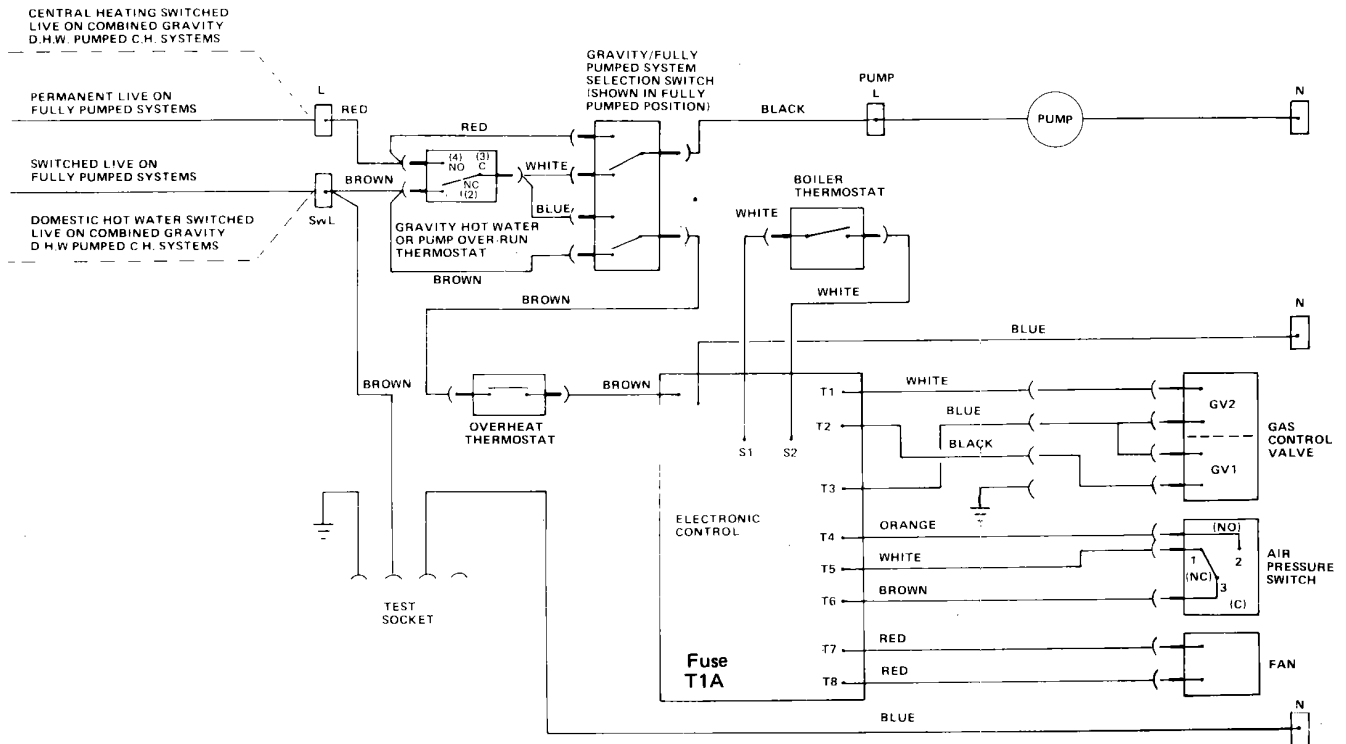

FIG. 27 FUNCTIONAL FLOW DIAGRAM
Refer to Fault Finding Chart FIG. 31 and Wiring Diagram FIGS. 27, 28.
- 4. Disconnect the electrical supply wires from the gas control valve noting their position. Refer to FIGS. 27, 28.